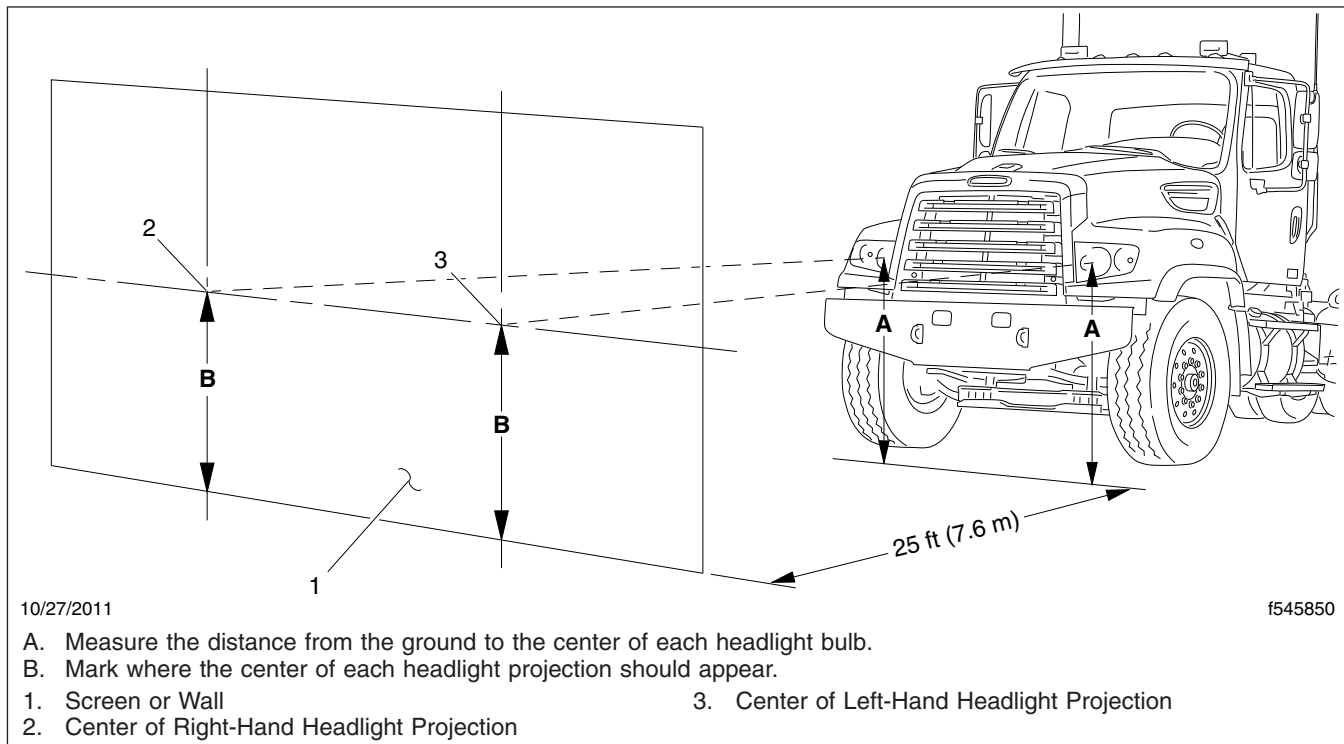

Fig. 23.1, Headlight Aiming Screen/Wall
3. Measure the distance from the ground to the center of each headlight bulb (**Fig. 23.1**, Item A). Note those distances.
4. On the screen or wall, mark the locations of each headlight bulb center using the distances found in step 3. See **Fig. 23.1**, Items 2 and 3.